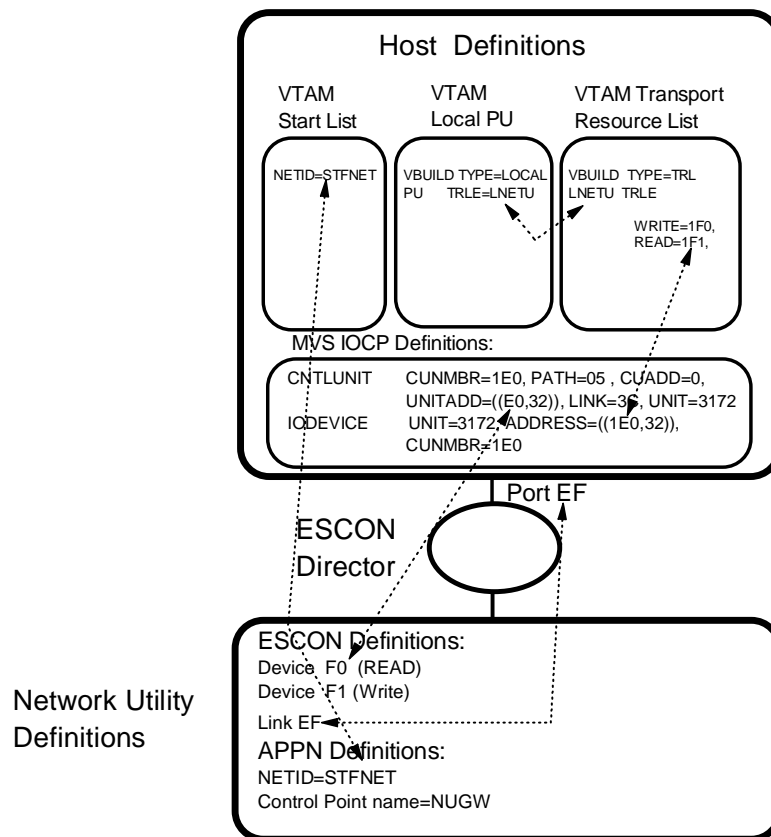

Figure 14-11. Host/Network Utility Parameter Relationships - MPC+
- Like the LSA and LCS definitions, the subchannel parameters must match parameters used in the host definitions when defining the Network Utility to the host channel subsystem. See Table 14-1 on page 14-7 for a description of the subchannel parameters and Figure 14-11 for a diagram of how these parameters correlate to the host parameters for an MPC+ definition.
1. The device addresses specified in the Network Utility MPC+ interface definition must be within the range specified in the UNITADD parameter in the CNTLUNIT macro from the IOCP. For example, the UNITADD parameter in Figure 14-11 shows that 32 (decimal) device addresses starting at E0 (hex) are being reserved for the Network Utility definition. Device addresses F0 and F1 have been specified for the Network Utility MPC+ interface. Because F0 and F1 are in the range E0 to FF hex, this is OK as long as no other device (or interface on this Network Utility) tries to use these same subchannels.
2. The values specified in the VTAM TRL major node definition must be within the range specified in the ADDRESS parameter in the IODEVICE macro from the IOCP. For example, the TRL major node definition in Figure 14-11 specifies 1F0 and 1F1, which are in the range 1E0 to 1FF that the ADDRESS parameter in the IODEVICE statement specifies.